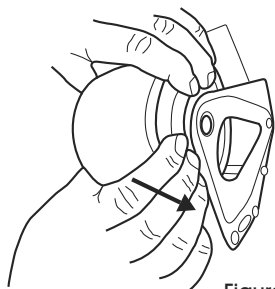

Figure 5
5. Replace core set (with tape roll) by pressing it into dispenser. (See Figure 5)